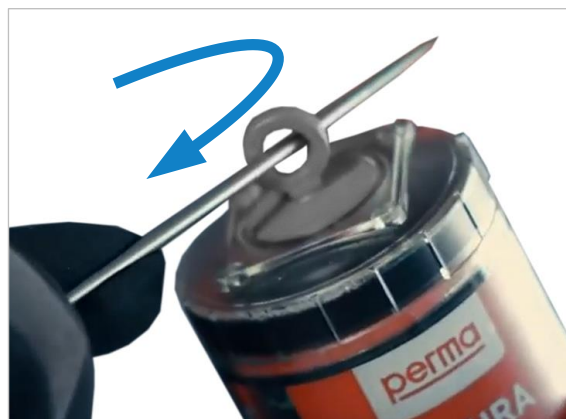

Figure 65: Activation with activation screw
- Open the front service door and unscrew the used lubricator (S) from the lubrication point.
- Remove the cap of the new cartridge. Release lubricant dispensing by screwing in the activating screw with a suitable tool, until the O-ring breaks off (see ⇒ Figure 65 on the right).